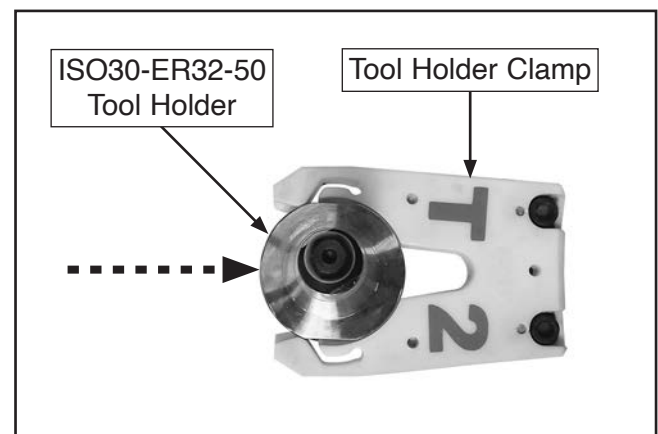

Figure 106. Tool holder in tool holder clamp.
3. Insert tool holder into tool holder clamp (see **Figure 106**).